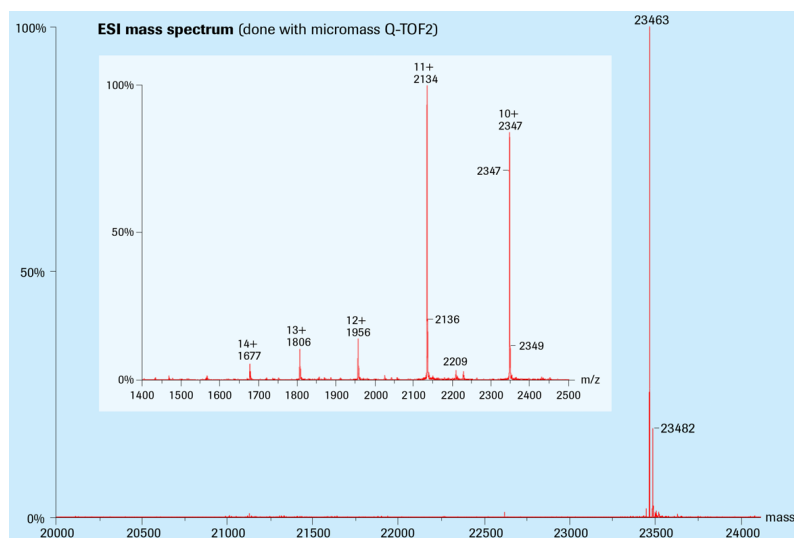

Fig. 2: Purity profile of Trypsin recombinant, Proteomics Grade (Deconvoluted spectrum, insert: raw data).
- Highly purified enzyme preparation that is free of activity from other proteases, particularly chymotrypsin, which is absent from the formulation (Figure 2).